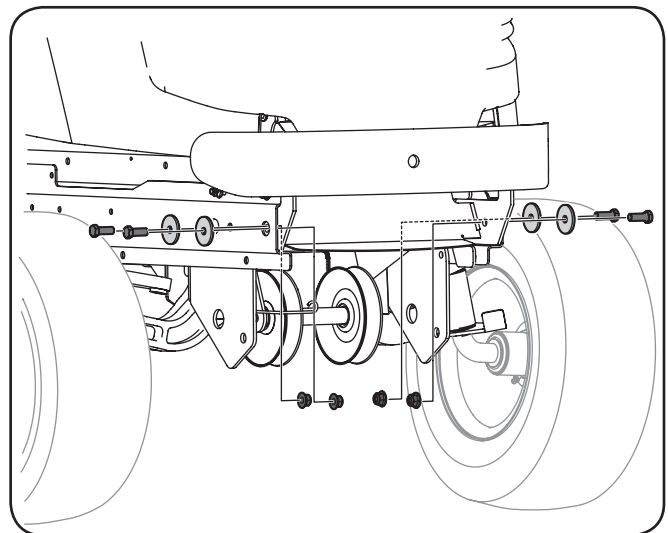

Figure 3-1
1. Using two $\frac{3}{16}$ " wrenches, remove the bumper hardware securing it to the frame. See Figure 3-1.